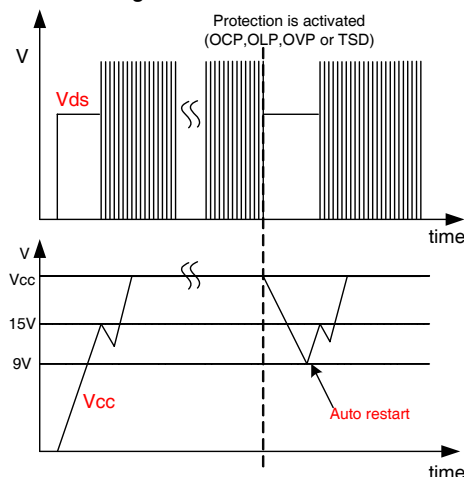

Figure 24. Auto restart operation after protection
3. Protection function: FS8S0765RCB has four self-protective functions such as abnormal over current protection (AOCP), overload protection (OLP), over-voltage protection (OVP) and thermal shutdown (TSD). Because these protection circuits are fully integrated into the IC without external components, the reliability can be improved without cost increase. In the event of these fault conditions, the FPS enters into auto-restart operation. Once the fault condition occurs, switching operation is terminated and MOSFET remains off, which forces V_{cc} to be reduced. When V_{cc} reaches 9V, the protection is reset and the supply current reduces to 80 μA . Then, V_{cc} begin to increase with the current provided through the start-up resistor. When V_{cc} reaches 15V, the FPS resumes normal operation if the fault condition is removed. In this manner, the auto-restart alternately enables and disables the switching of the power MOSFET until the fault condition is eliminated, as illustrated in Figure 24.